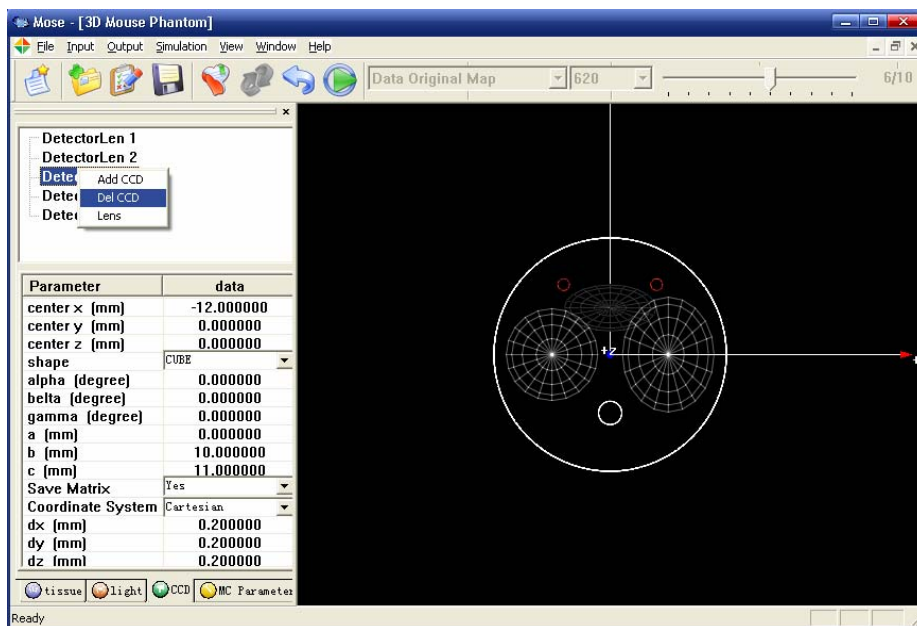
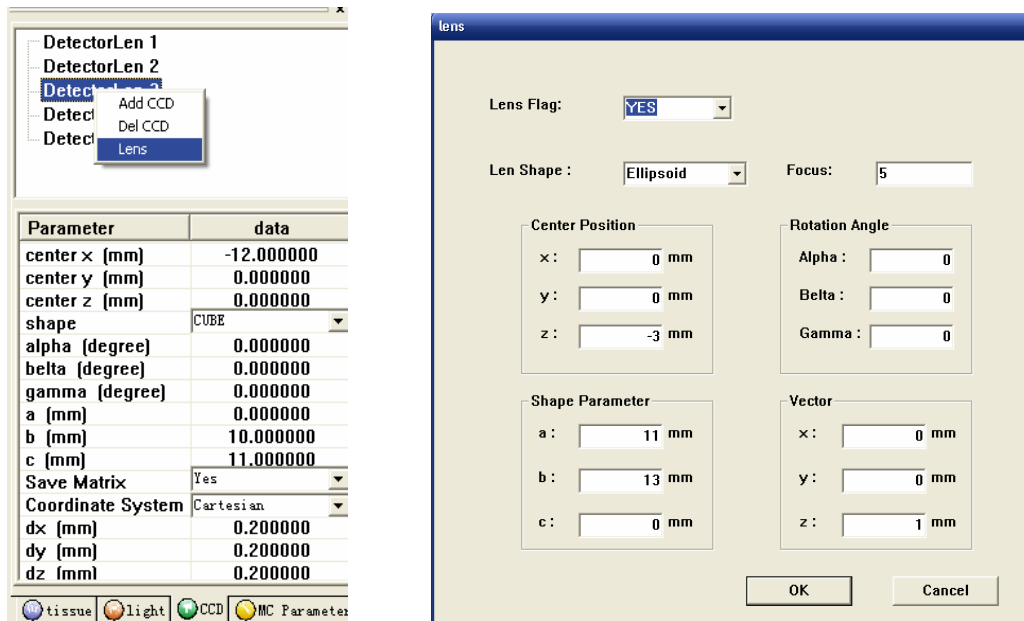

Fig 12-8. Delete a CCD detector
Fig 12-9. Set the parameters of lens
c. *CCD List*: All the detectors are shown on the upper list, corresponding information including position and shape parameters which can be modified are shown in the second list. Right click a certain detector, we could add or delete a detector or set the parameters of lens (see Figure 12-7, Figure 12-8, Figure 12-9).